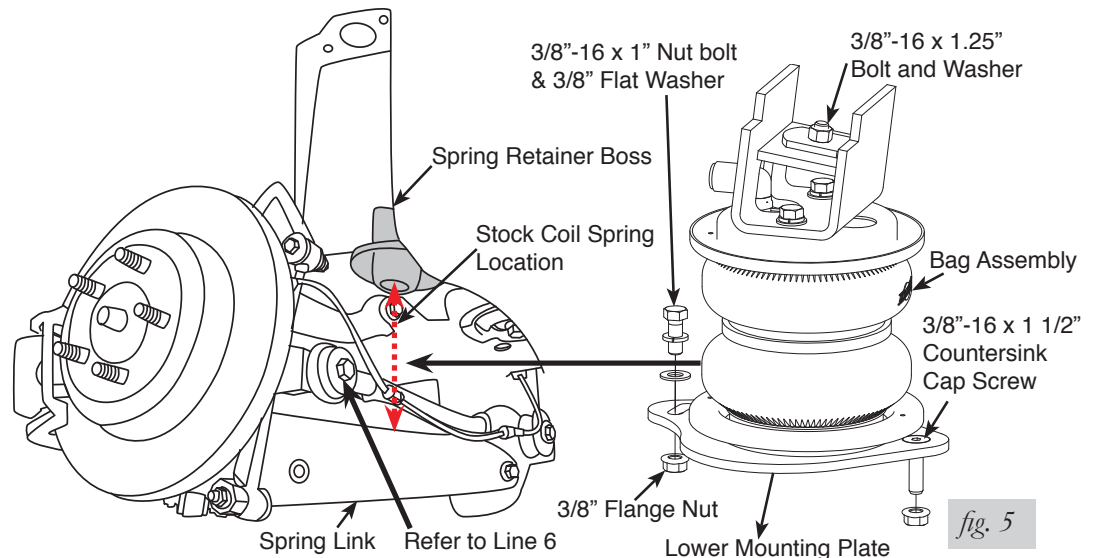

fig. 5
3. Apply the roll plates (N) to the top and bottom of the air spring assembly. Orient as shown in fig. 5.
3. Insert and snug nuts and bolts into existing holes required for lower spring link (fig. 5).